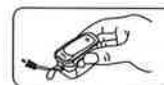

Figure 3.2.1 OLED display
3.1.3 Read correspondent data from display screen (see Figure 3.2.1).